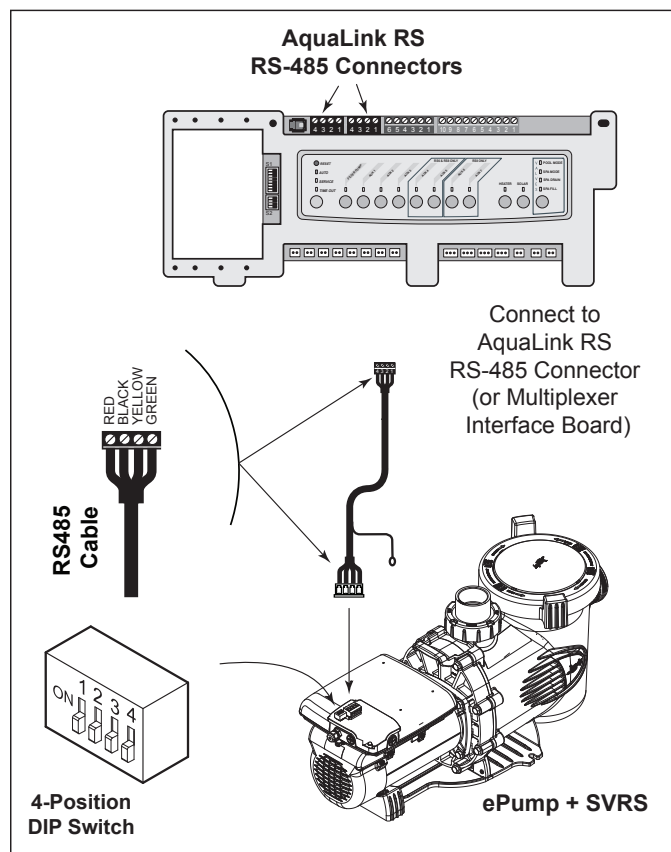

Figure 5. Wiring AquaLink RS Controller, AquaLink PDA or AquaLink Z4 to ePump
- Unplug the RS-485 connector from the ePump + SVRS and attach the four (4) wires in the RS-485 cable to the RS-485 connector. Match the wire colors with the connector positions as follows: 1-red, 2-black, 3-yellow, and 4-green. See Figure 5.
- Slide dip switches 1 and 2 down, so they are in the OFF position. See Figure 5.